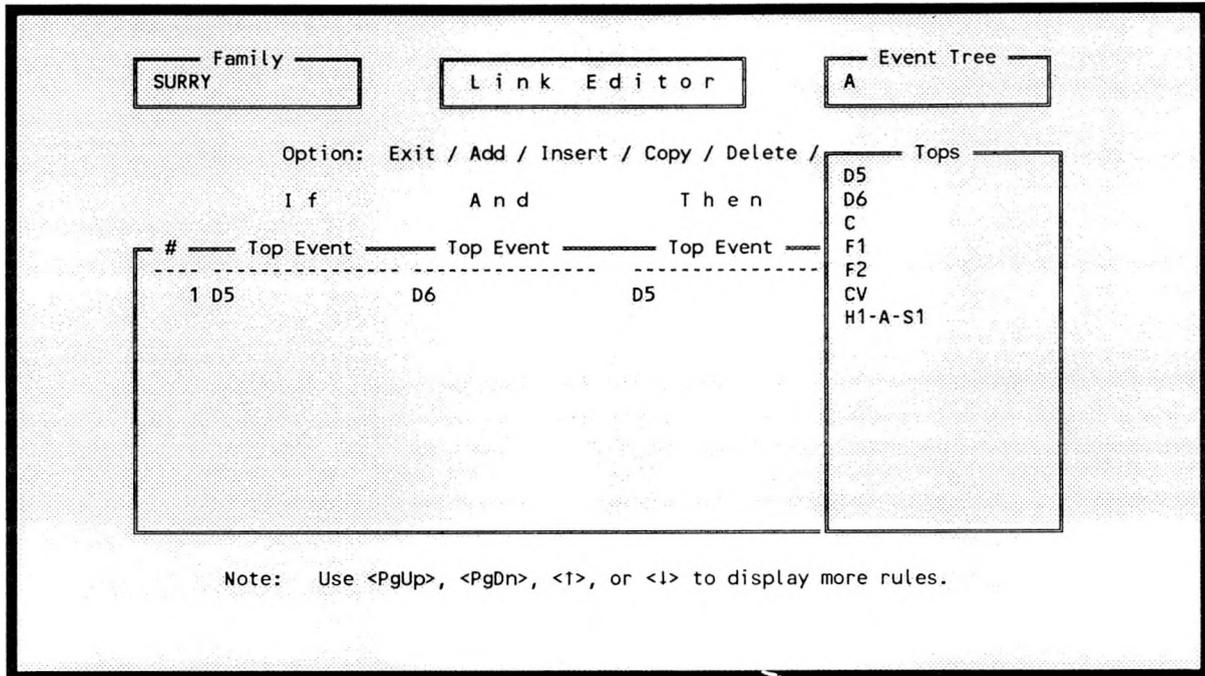

Figure 243. Tops listing help form.
7.6.3.2 Add. This option allows you to add a new rule or modify an existing rule, if the cursor is in the first column, or add/modify a top or system if the cursor is in any other column. To add a rule, move the cursor to the first column and type an <A>. A default rule number will appear in the first column. Press <Enter> and the cursor will be moved to the second column. A line of dashes will appear above the rule that is being added. This is to assist in keeping the rules separated. To add a conditional top, type <A>, enter the name of the conditional top, and type <Enter>. If the name you entered is not a top for this event tree, the message **Name not found...** is displayed. A list of all the tops for this event tree is displayed in a help form on the right side of menu. To select one the tops from the help form, press <F1>, move the cursor to the top to be add, and press <Enter> (see Figure 243). All conditional tops and replaced tops are added in this same way. The replacement top is added in much the same way with some differences. When you type <A>, the list of all systems in the family is displayed in a help form on the left hand side of the form (see